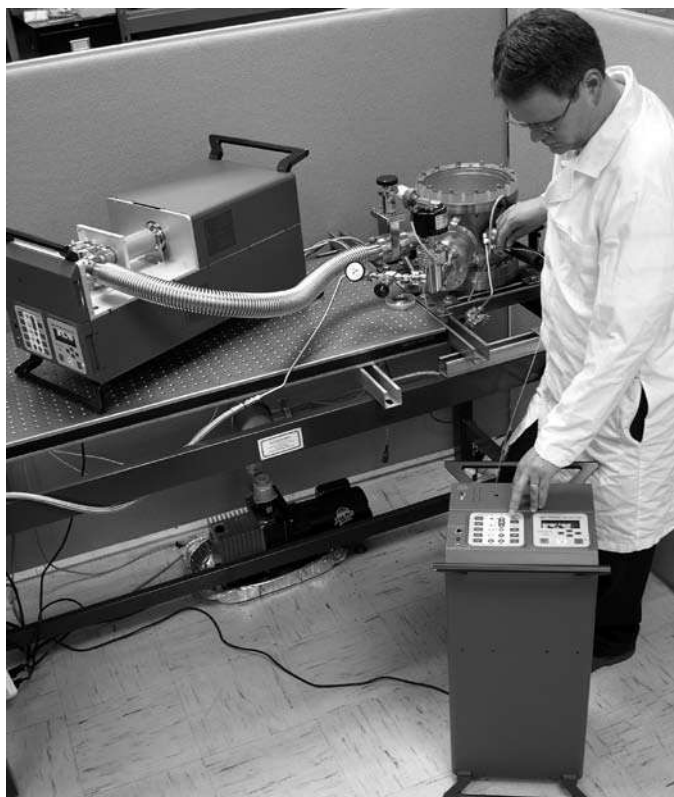

Figure 1-3. UGAPM operating orientation
The UGAPM is designed to be compact. All the components – a diaphragm pump, one turbo-molecular pump, the RGA chamber, the RGA, two gauges, a solenoid valve, heaters and the insulating cabinets, power supplies, and even the multiple capillary inlet valve & related on/off valve– fit inside an enclosure of 12”(W) X 11”(H) X 25”(L). The system is designed to run in either horizontal or vertical orientation (See figure 1-3 left).